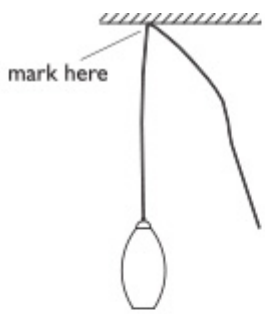

Figure 1
1. Determine the desired cord length for each pendant. Measure the desired cord length from your ceiling by using a tape measure, or hold the pendant cord to ceiling and adjust to desired length. Use electrical tape to mark a spot on cord about 1" below where it will meet the ceiling. (Figure 1) *Note: When choosing the proper length of each pendant cord, we recommend a minimum of 22" between tables or eating surfaces and the bottom of the pendants.*